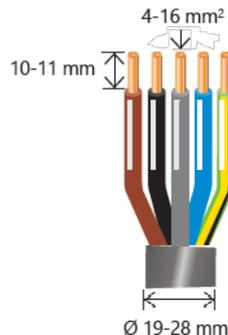
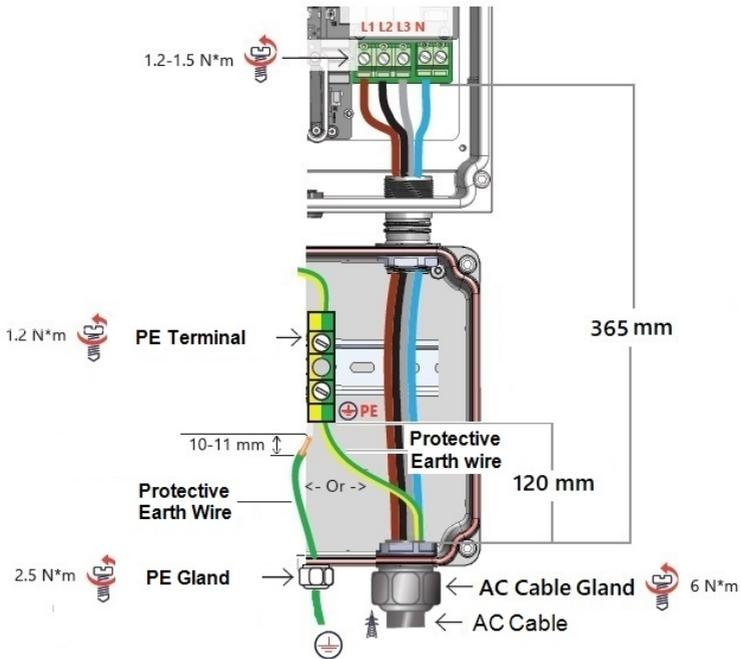

Figure 15: 5-Wire AC Cable - Insulation Stripping
Figure 17: AC Cable and Ground Connections to Inverter with DC Safety Unit
3. Expose 10 mm to 11 mm / 0.4 " of wire insulation (*Figure 15*).
Always connect the PE Protective Earth Wire first (See Figure 17). The Ground point of the inverter and the Terminal of the DC Safety Unit are linked by a grounding wire. Do not disconnect the wire on either side!
5. Open the AC cable gland of the DC Safety Unit and insert the cable through the gland (See Figure 17).
6. Strip the external cable insulation, as shown in Figure 17, and expose 10 mm to 11 mm / 0.4 " of wire insulation (Figure 15).